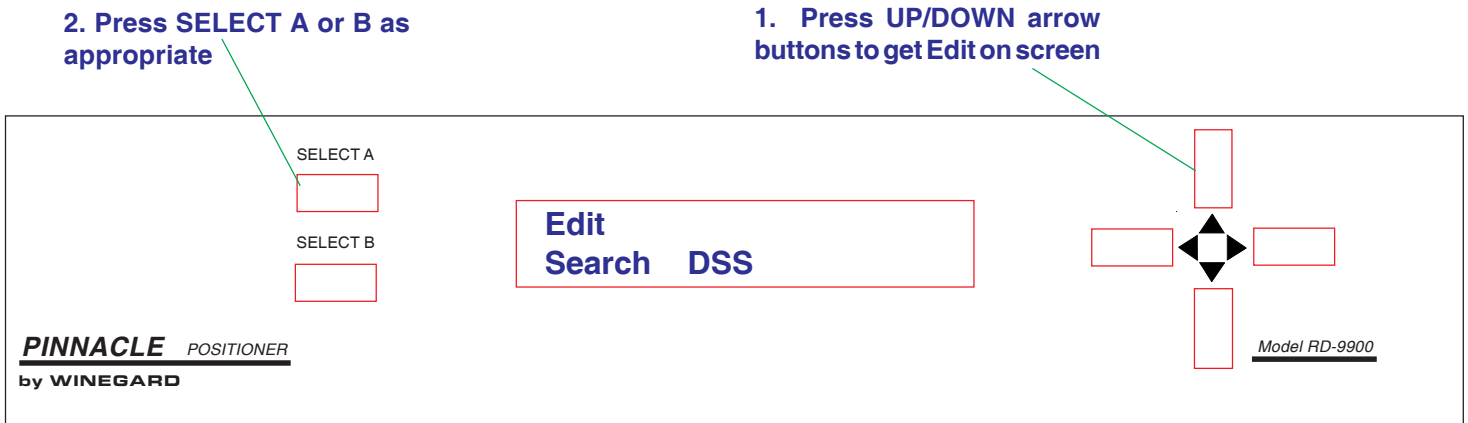

Figure 3
1. Press **[UP/DOWN]** arrow until **Edit** is displayed on positioner. See Figure 3.
2. Press **[SELECT A or B]** Edit, see Figure 3.